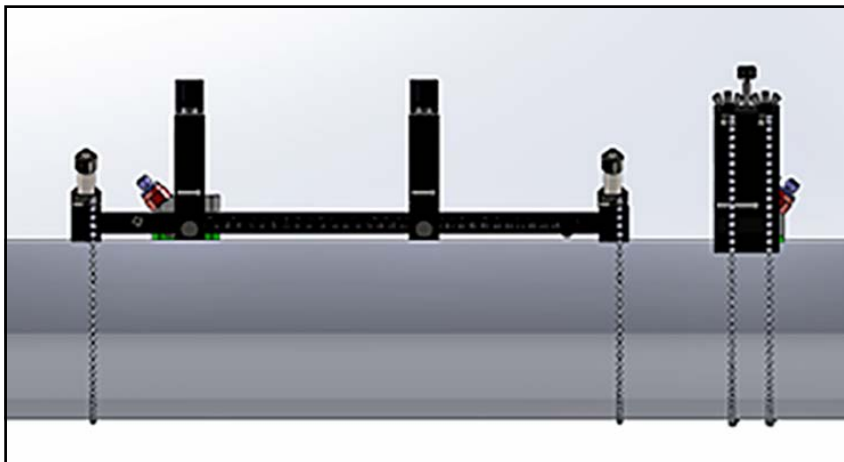

Figure 42: Completed Installation (Top View)
9. Tighten the yoke screw until the transducer firmly contacts the pipe. Your completed odd-traverse installation should look like *Figure 42* below.